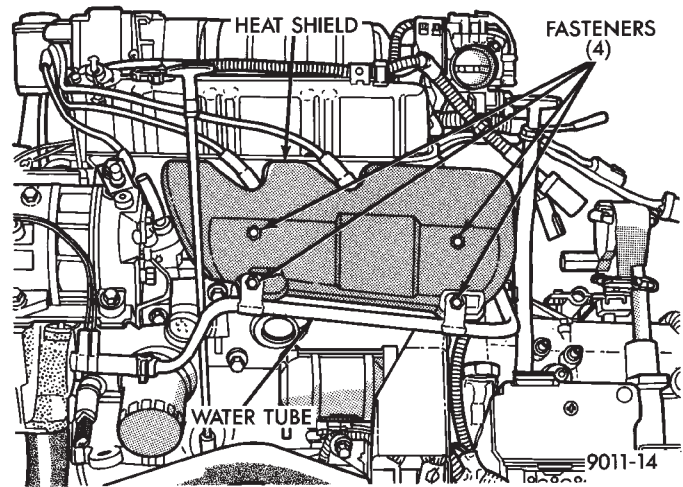

Fig. 17 Heat Shield
- (5) Remove bolts attaching rear manifold to cylinder head and remove manifold.
- (6) Lower vehicle and remove screws attaching front heat shield to front manifold (Fig. 17).
(6) Install front manifold heat shield and tighten attaching screws to 23 N•m (200 in. lbs.) torque (Fig. 17).